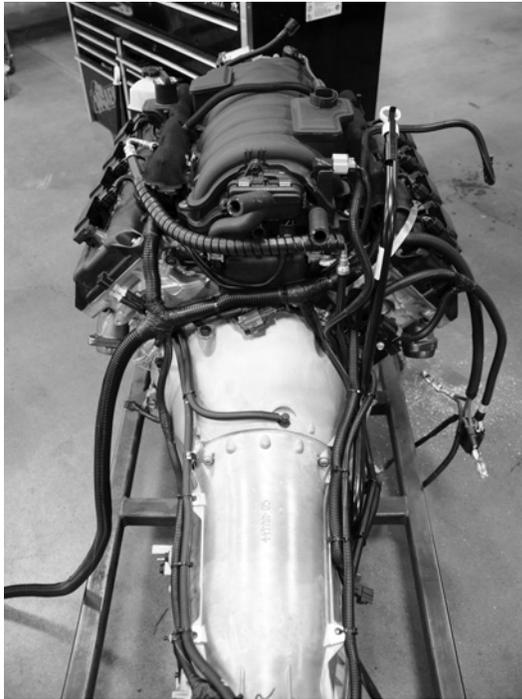

*Figure 21*
17. Install battery harness as shown (fig 21).